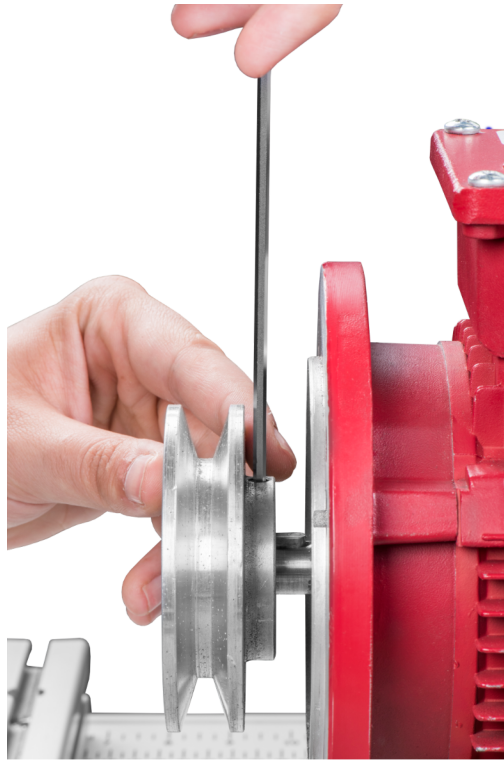

Figure 14. Driving pulley installation.
7. Take the 80 mm nominal D. pulley from the Pulleys panel and slide it on the motor shaft as shown in Figure 14. The pulley hub should be on the motor side.